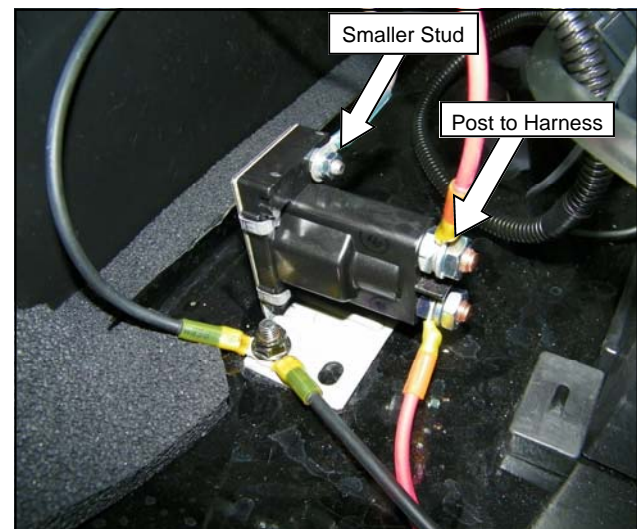

Fig. 8
- Route the 10 Ga. Red wire from wire harness WHHLA03 to the opposite post of the solenoid from the harness attached to the battery. As shown in figure 8.
- Attach ring terminal end of the 16 Ga. Brown wire onto the smaller stud at the base of the solenoid and tighten the nut supplied. Also shown in figure 8.